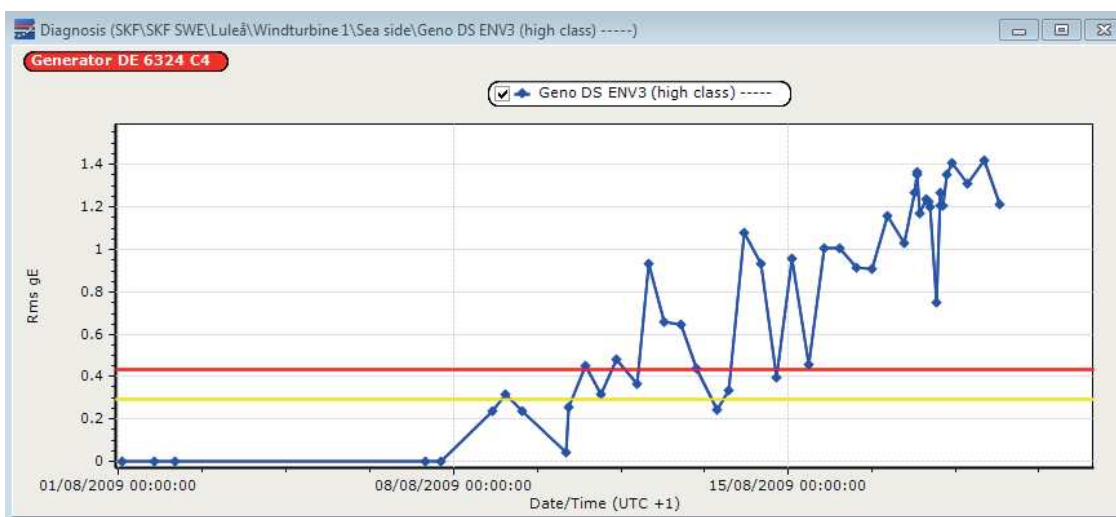

Fig. 1. An increasing ENV 3 diagnosis trend, for a defect outer race on a wind turbine generator bearing.
Fig. 1 shows a vibration trend for a standard ENV3 (SKF Envelope 3 filter) diagnose for a defect generator bearing (6324 C4) on the driven side (DS) on a wind turbine. The **red** and **yellow** lines are showing the alarm and warning levels respectively.